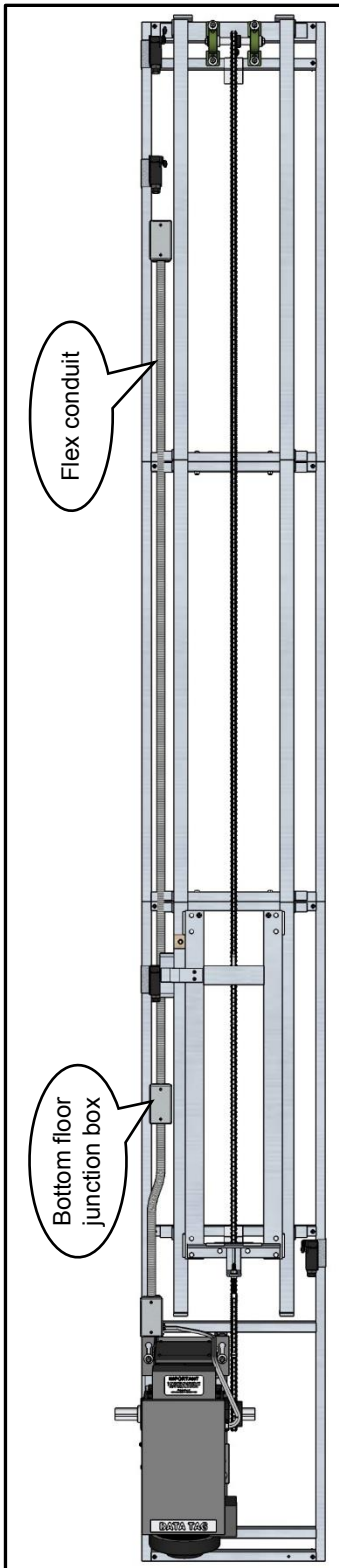

Figure 18
- Lower flex conduit from top floor and connect to junction box at bottom floor. (see Figures 18 & 19)